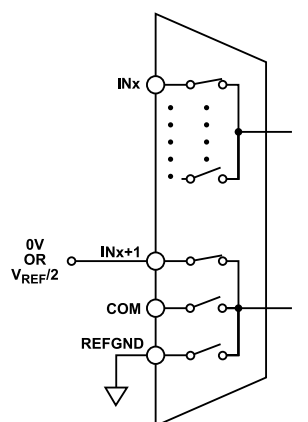

Figure 70. Even-Channel and Odd-Channel Paired
- Figure 70, even numbered input paired with the next highest odd numbered input (for example, IN0 with IN1, IN2 with IN3, and so on).